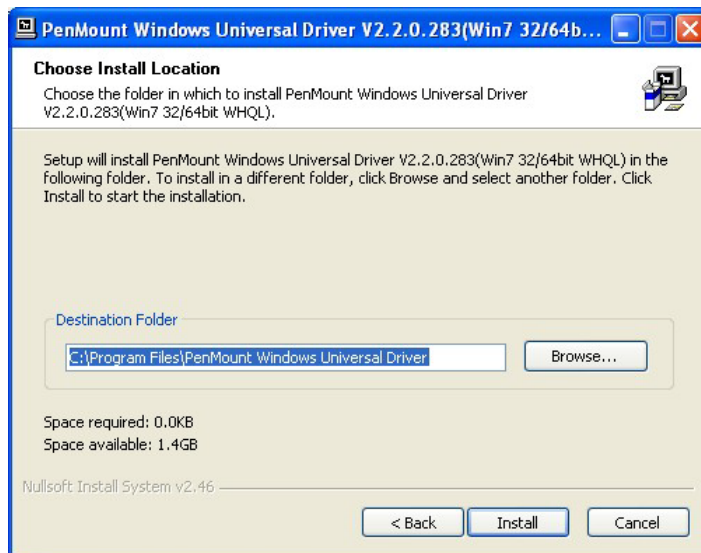

Figure 6-4: Initiate Install
Step 8: The installation destination screen appears. See **Figure 6-4**. Click **Install**.